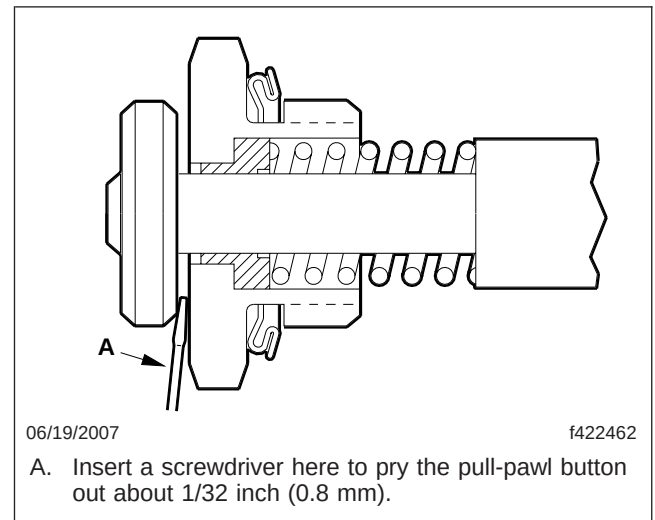

Fig. 1, Pull-Pawl on Meritor Automatic Slack Adjusters
- 4.1 Using a screwdriver or an equivalent tool, pry the pawl button out about 1/32 inch (0.8 mm). See Fig. 1.